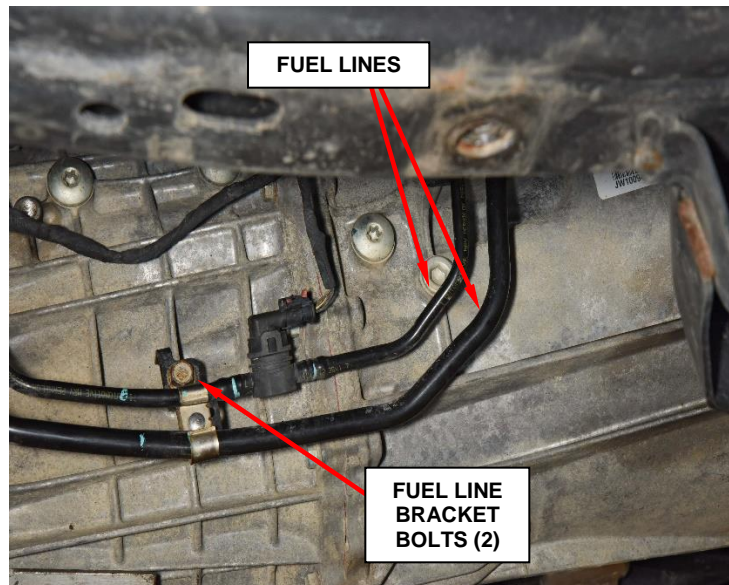

Figure 13 – Fuel Lines
22. Remove the bolts attaching the fuel line bracket to the transmission (Figure 13).